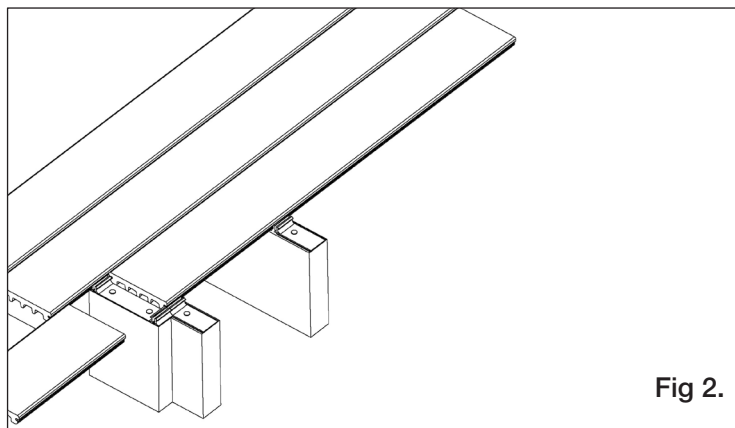

Fig 2.
2. Sharing of hidden fastening strips between two boards is NOT allowed. Sister additional framing where butt joint occurs then trim a hidden fastening strip to accommodate each board and attach separately to the additional framing. (Fig. 2)
When using fascia to cover joists wider than 11-1/2" (292 mm), either stack multiple layers of fascia or use a combination of fascia boards, deck boards and 2x4s as accents to create a unique look. (Fig. 2)